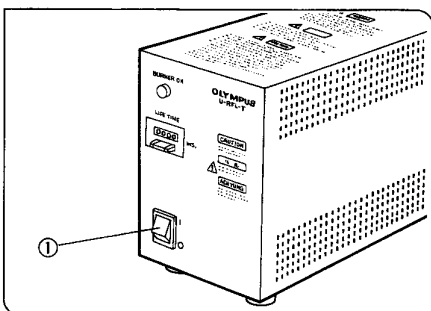

Fig. 9
Move the main switch ① on the power supply unit to "I" (ON). Between 5 to 10 minutes are required for the arc to stabilize after the burner is ignited. (Fig. 9)